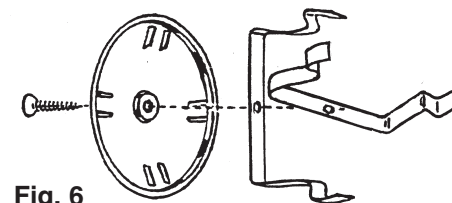

Fig. 6
9. It is recommended that you always use the protection covers. They will prevent damage to the trumpet’s diaphragm from rain, bugs, dirt, etc. Assemble Horn Protection Covers as shown in Fig. 6 below. Do not tighten screws, brackets are placed into position on the front of each trumpet and then tighten screws.